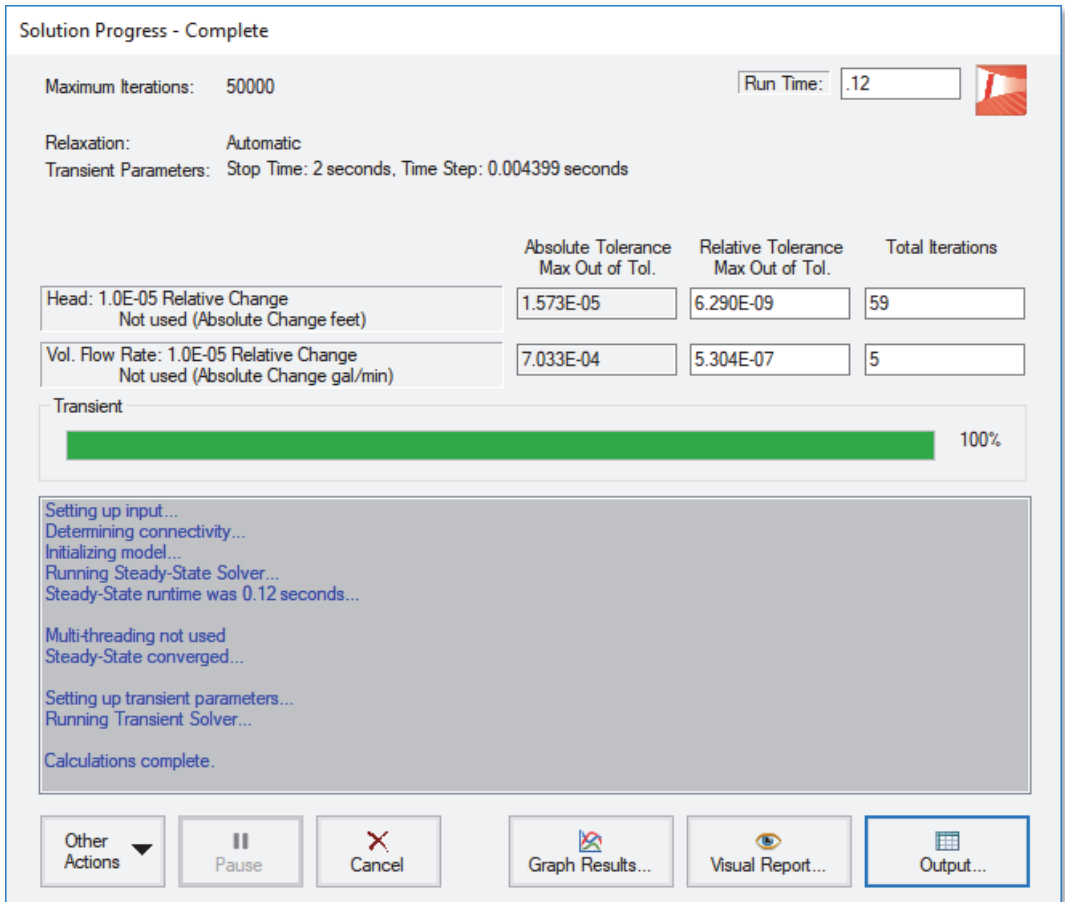

Figure 2.17 The Solution Progress window displays the state of the simulation
- Choose “Run Model...” from the **Analysis** menu or click the arrow icon on the Toolbar. During execution, the Solution Progress window is displayed (Figure 2.17). You can use this window to pause or cancel the Solver's activity.